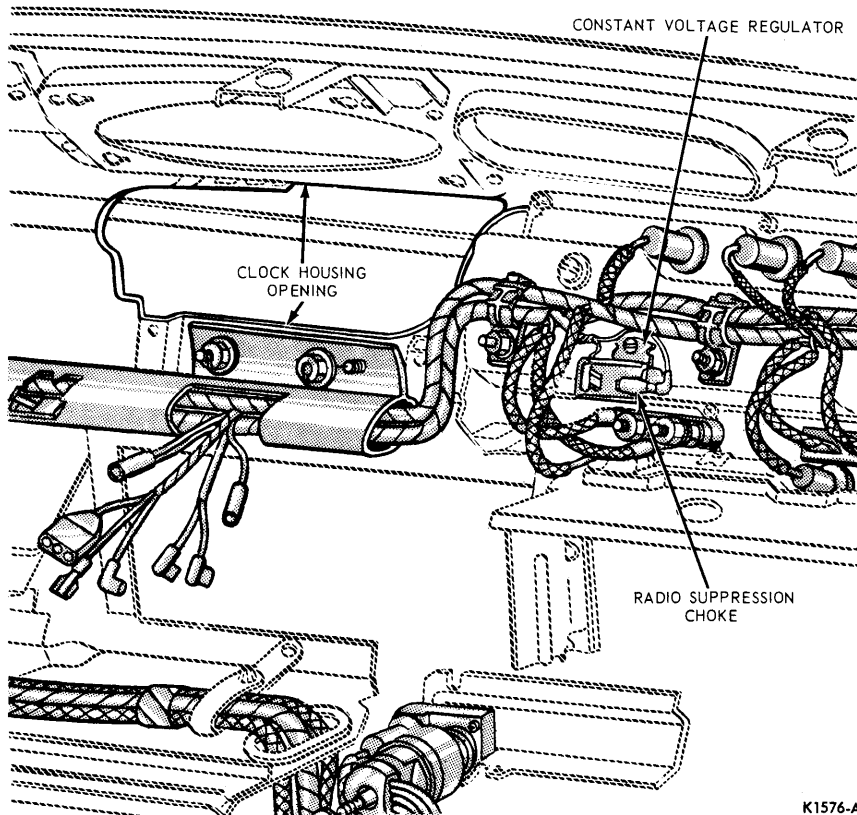

FIG. 3—Constant Voltage Regulator Mounting
5. Reaching left through the clock housing opening, remove the one retaining screw, remove the constant voltage regulator from the right side of the speedometer, and disconnect the two wires (Fig. 3).